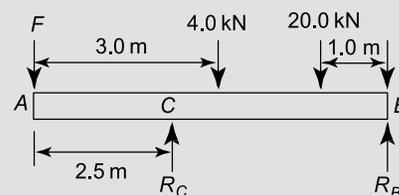

Figure 5.15
**Problem 10.** A uniform steel girder  $AB$  is 6.0 m long and has a mass equivalent to 4.0 kN acting at its centre. The girder rests on two supports at  $C$  and  $B$  as shown in Figure 5.15. A point load of 20.0 kN is attached to the beam as shown. Determine the value of the force  $F$  that causes the beam to just lift off the support  $B$ .